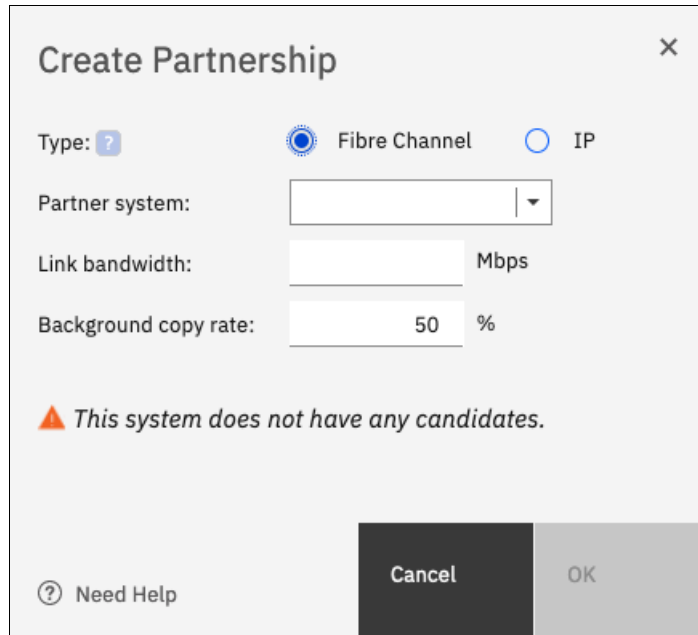

Figure 10-112 Creating a partnership details
6. Click **OK** to confirm the partnership relationship (see Figure 10-112).